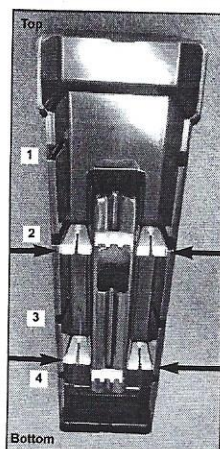

Figure 1
To attach V pads (see Figure 1):
2. Place one center pad into each of the indented slots in the center section of the case as shown (see Figure 1).